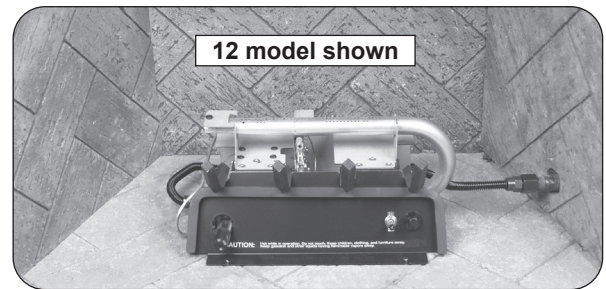

Fig. 17-2 Center burner in fireplace
3. Place the burner system in the fireplace. Center the burner in the fireplace. See Fig. 17-2.